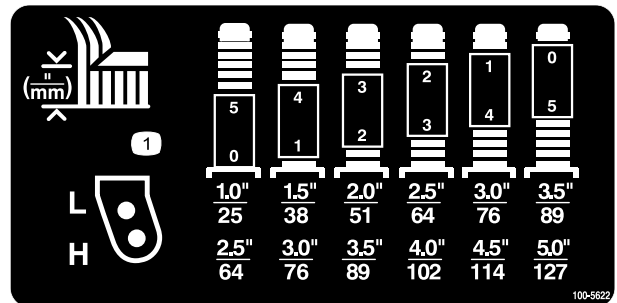

Figure 7
2. Position the castor wheel axles in the same holes in both castor forks. Refer to Figure 6 and Figure 7 to determine the correct holes for the setting.
Refer to Figure 7 to determine the combinations of spacers for the setting.